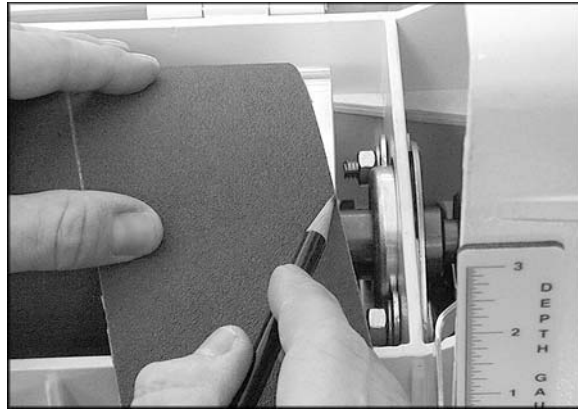

Figure 13
5. Mark the trailing end of the strip where it crosses the right (inboard) end of the drum (Figure 13).